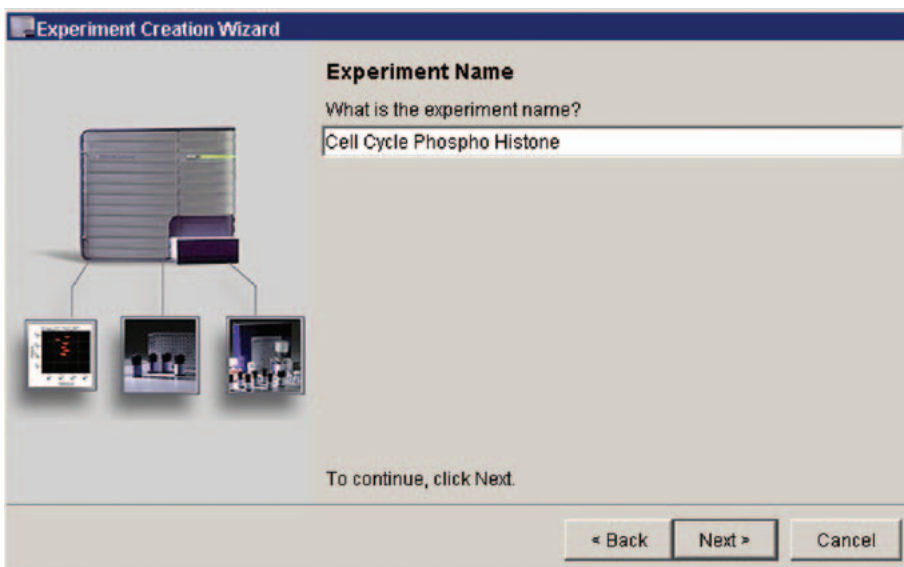

Figure 10
- The Experiment Name view appears (*Figure 10*).